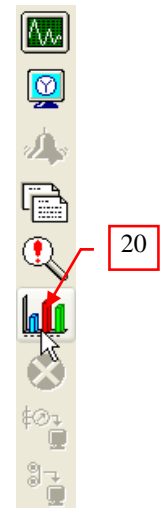

Fig. 13
20. To view the performance of Gen1, on the “Transient Stability” toolbar, click the “Transient Stability Plots” button. See Fig. 13.